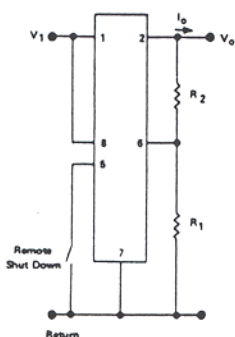

FIGURE 2
Hook up per Fig. 2 and 3, but V_1 and V_0 are negative voltage
- Reference diode is $6.2 \pm .3$ volts, and the V_{BE} of the feedback transistor is $0.6 \pm .1$ volt, giving $V_{6-7} = 6.4$ to 7.2 volts, temperature compensated. External divider R_1 and R_2 in Figs. 2, 3 and 13 determines the output voltage V_0 .